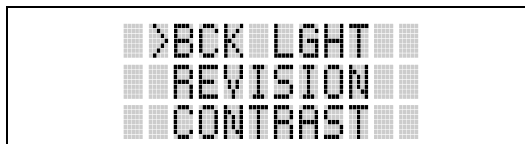

Figure 9-8: Menu Display
- Upon entering the menu selection mode, Menu options will appear in the display (see Figure 9-8).